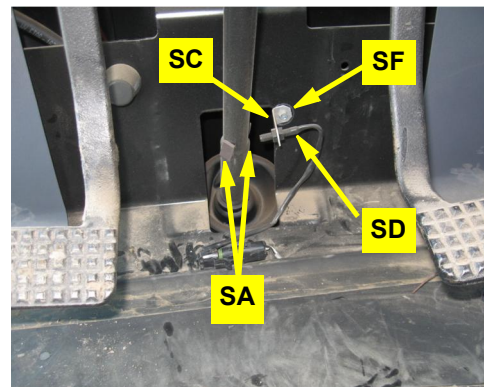

Figure 1c: Installed sensor bracket, magnets and sensor
- c. Using self-drilling screw **SF**, attach the sensor bracket **SC** at the top right corner of the steering shaft access hole (Figure 1c).
- d. Using epoxy **SB**, attach magnets **SA** to the steering shaft 180° apart and in line with the sensor bracket **SC** (Figure 1c).
- e. Install sensor **SD** in bracket **SC**. Set the sensor face to 1/8" to 1/4" from the magnets (Figure 1c).